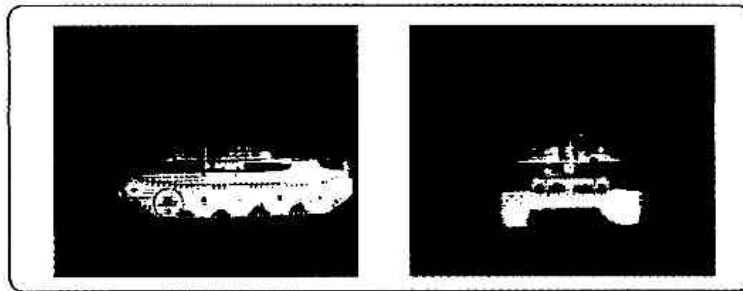

Figure A-5. T-62 medium tank.
e. **T-62 Medium Tank** (Figure A-5).